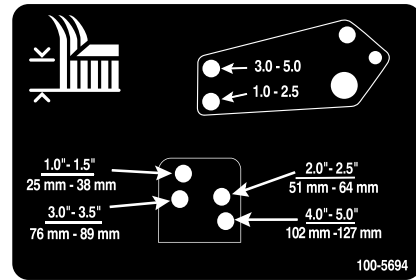

Figure 26
10. Align the damper-link holes with the selected height-of-cut bracket holes in the mower-deck frame, insert the clevis pins, and install the hairpin cotters (Figure 26).